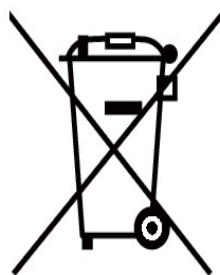

Figure 1
- (1) When shipping products incorporating MITSUBISHI device any time later than September 26th, 2008, the symbol mark shown as Figure 1 in section "Information for end-user" is required to be attached on the machinery or on the package. Also, the explanation of the symbol must be added.
- (2) Machinery with battery and maintenance battery produced before the EU Battery Directive are also subjected to the restriction. When shipping those products to EU countries later than September 26th, 2008, follow the instruction explained in (1).